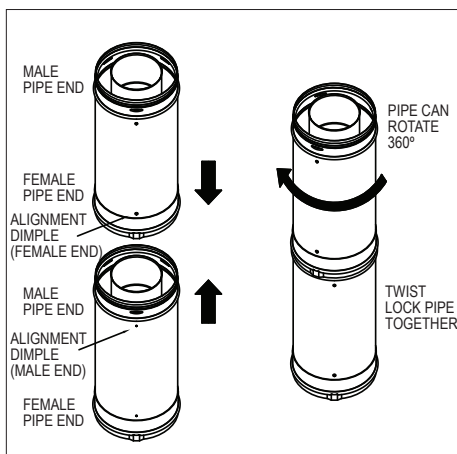

Figure 1
DuraVent's Concentric Vent is connected together by aligning the Alignment Dimples on the male and female vent sections, sliding together and twist locking in either direction (**Fig.1**). The joints will only connect and come apart at the point where the Alignment Dimples are aligned. The CVS joint section can rotate 360-degrees to allow elbows to point in the desired direction. The vent pipe sections cannot be cut. Telescoping Adjustable lengths are available to accommodate specific installation length requirements. Screws are
5. Install Vent. Once the vent path and components have been determined, install the vent. Align the male and female pipe ends as described in the Joint Connection section, push together and twist lock (**Fig.1**). Note the direction of the pipe is important. The outer wall female end must face downward/towards the appliance; and the outer wall male end must face upward/away from the appliance. The direction is to ensure correct condensate drainage and weatherization.